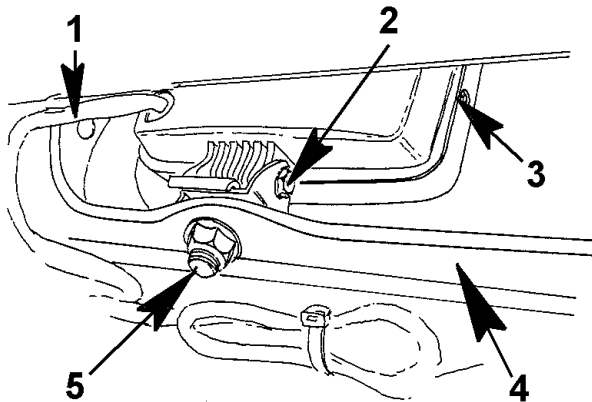

Figure 62 Fog Light Removal
4. Loosen and remove fog light mounting nut and flat washer (Figure 62, Item 5).